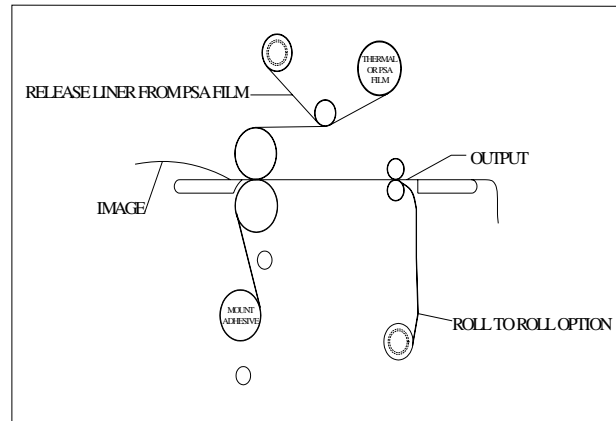

Figure 33
1. Load the laminator as illustrated in Fig. 33.